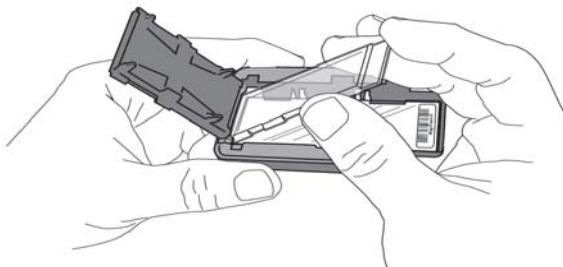

Figure 4 Inserting the ozone-barrier slide cover (shown for Scanner B and Scanner C)
- In environments in which the ozone level exceeds 50 ppb, immediately put the slides with active microarray surface (with “Agilent”-labeled barcode) facing up in a slide holder. Make sure that the slide is not caught up on any corner. Put an ozone-barrier slide cover on top of the array as shown in **Figure 4**. Refer to the *Agilent Ozone-Barrier Slide Cover User Guide* (p/n G2505-90550), included with the slide cover, for more information.